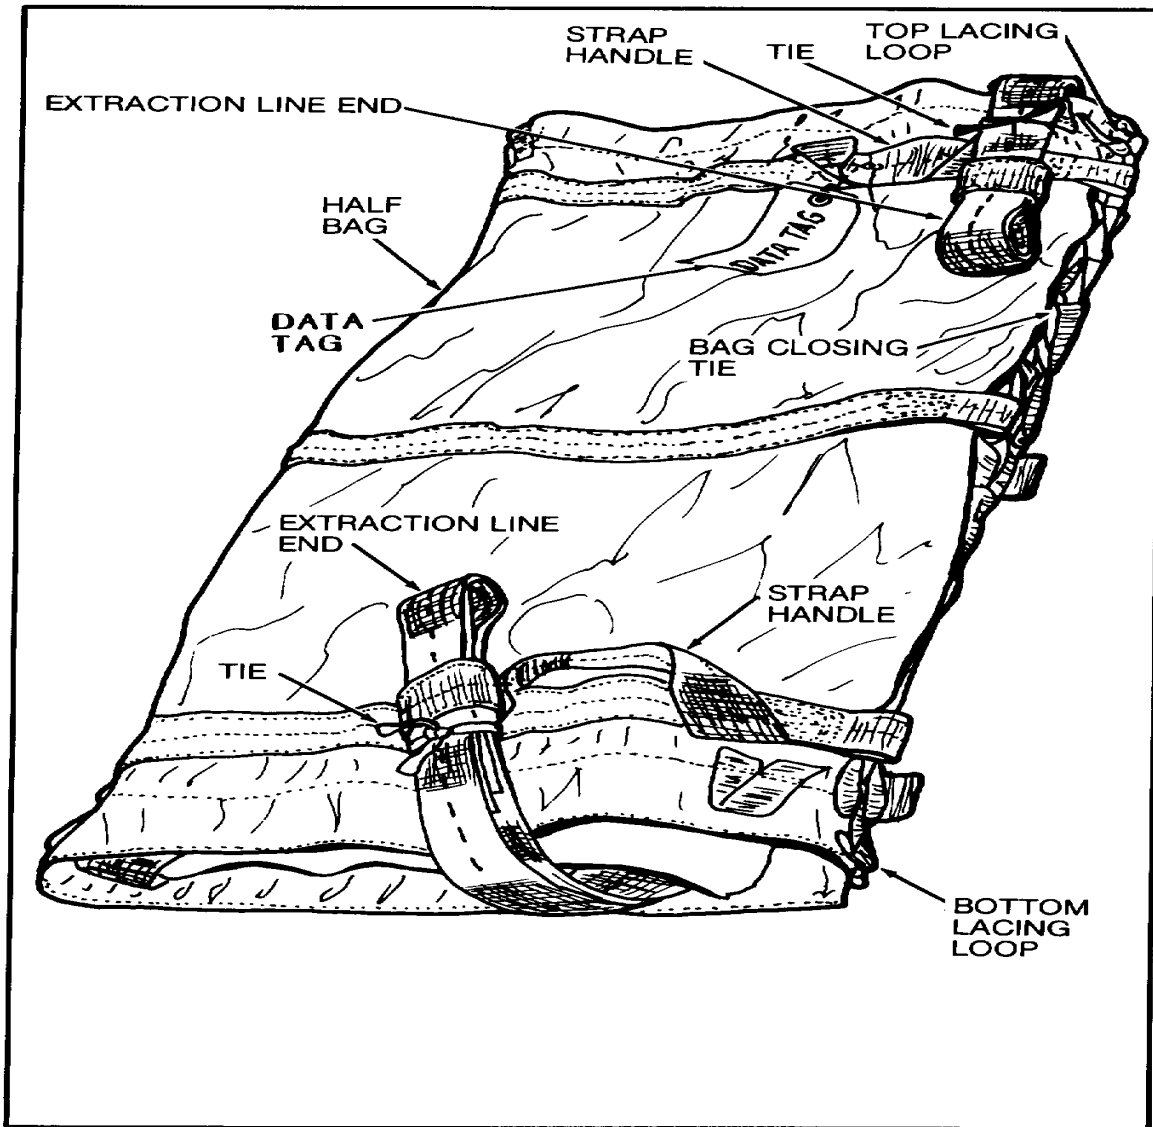

Figure 6. Half Bag Ends Laced and Ties Installed.
- c. Cut 95-inch length of $\frac{1}{2}$ -inch wide tubular nylon webbing and use as bag closing tie. Secure one end of half bag closing tie to the top and bottom lacing loops on upper corner of panel with three alternating half hitches and overhand knot in running end (figure 6).